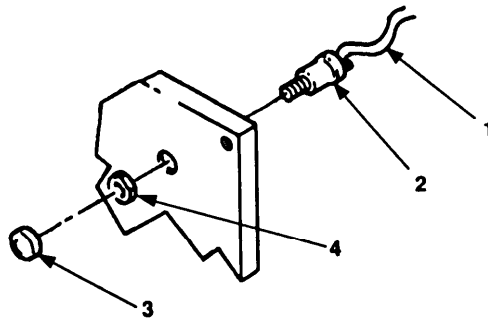

Figure 4-44. Oil Pressure Bypass and Push to Start Switch Replacement.
- a. Tag and disconnect wires (figure 4-44, 1) from switch (2).
- b. Unscrew boot (3) from switch (2).
- c. Remove nut (4) from switch (2).
- d. Remove switch (2).
- a. Install switch (2).
- b. Install nut (4) on switch (2).
- c. Thread boot (3) on switch (2).
- d. Connect wires (1) on switch (2) and remove tags.